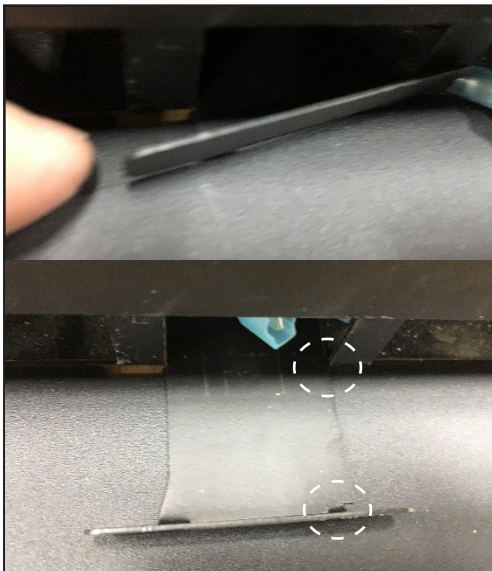

Figure 3.4
3. Locate battery wire tray and pull tray completely out to expose wire connectors. See Figure 3.4 and 3.5.